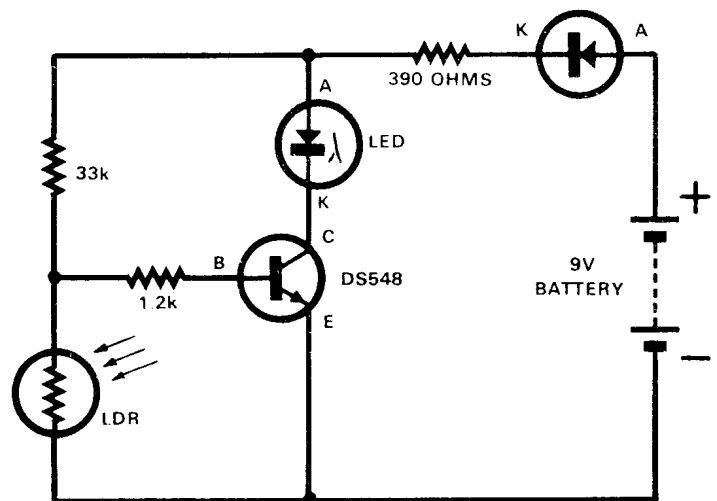
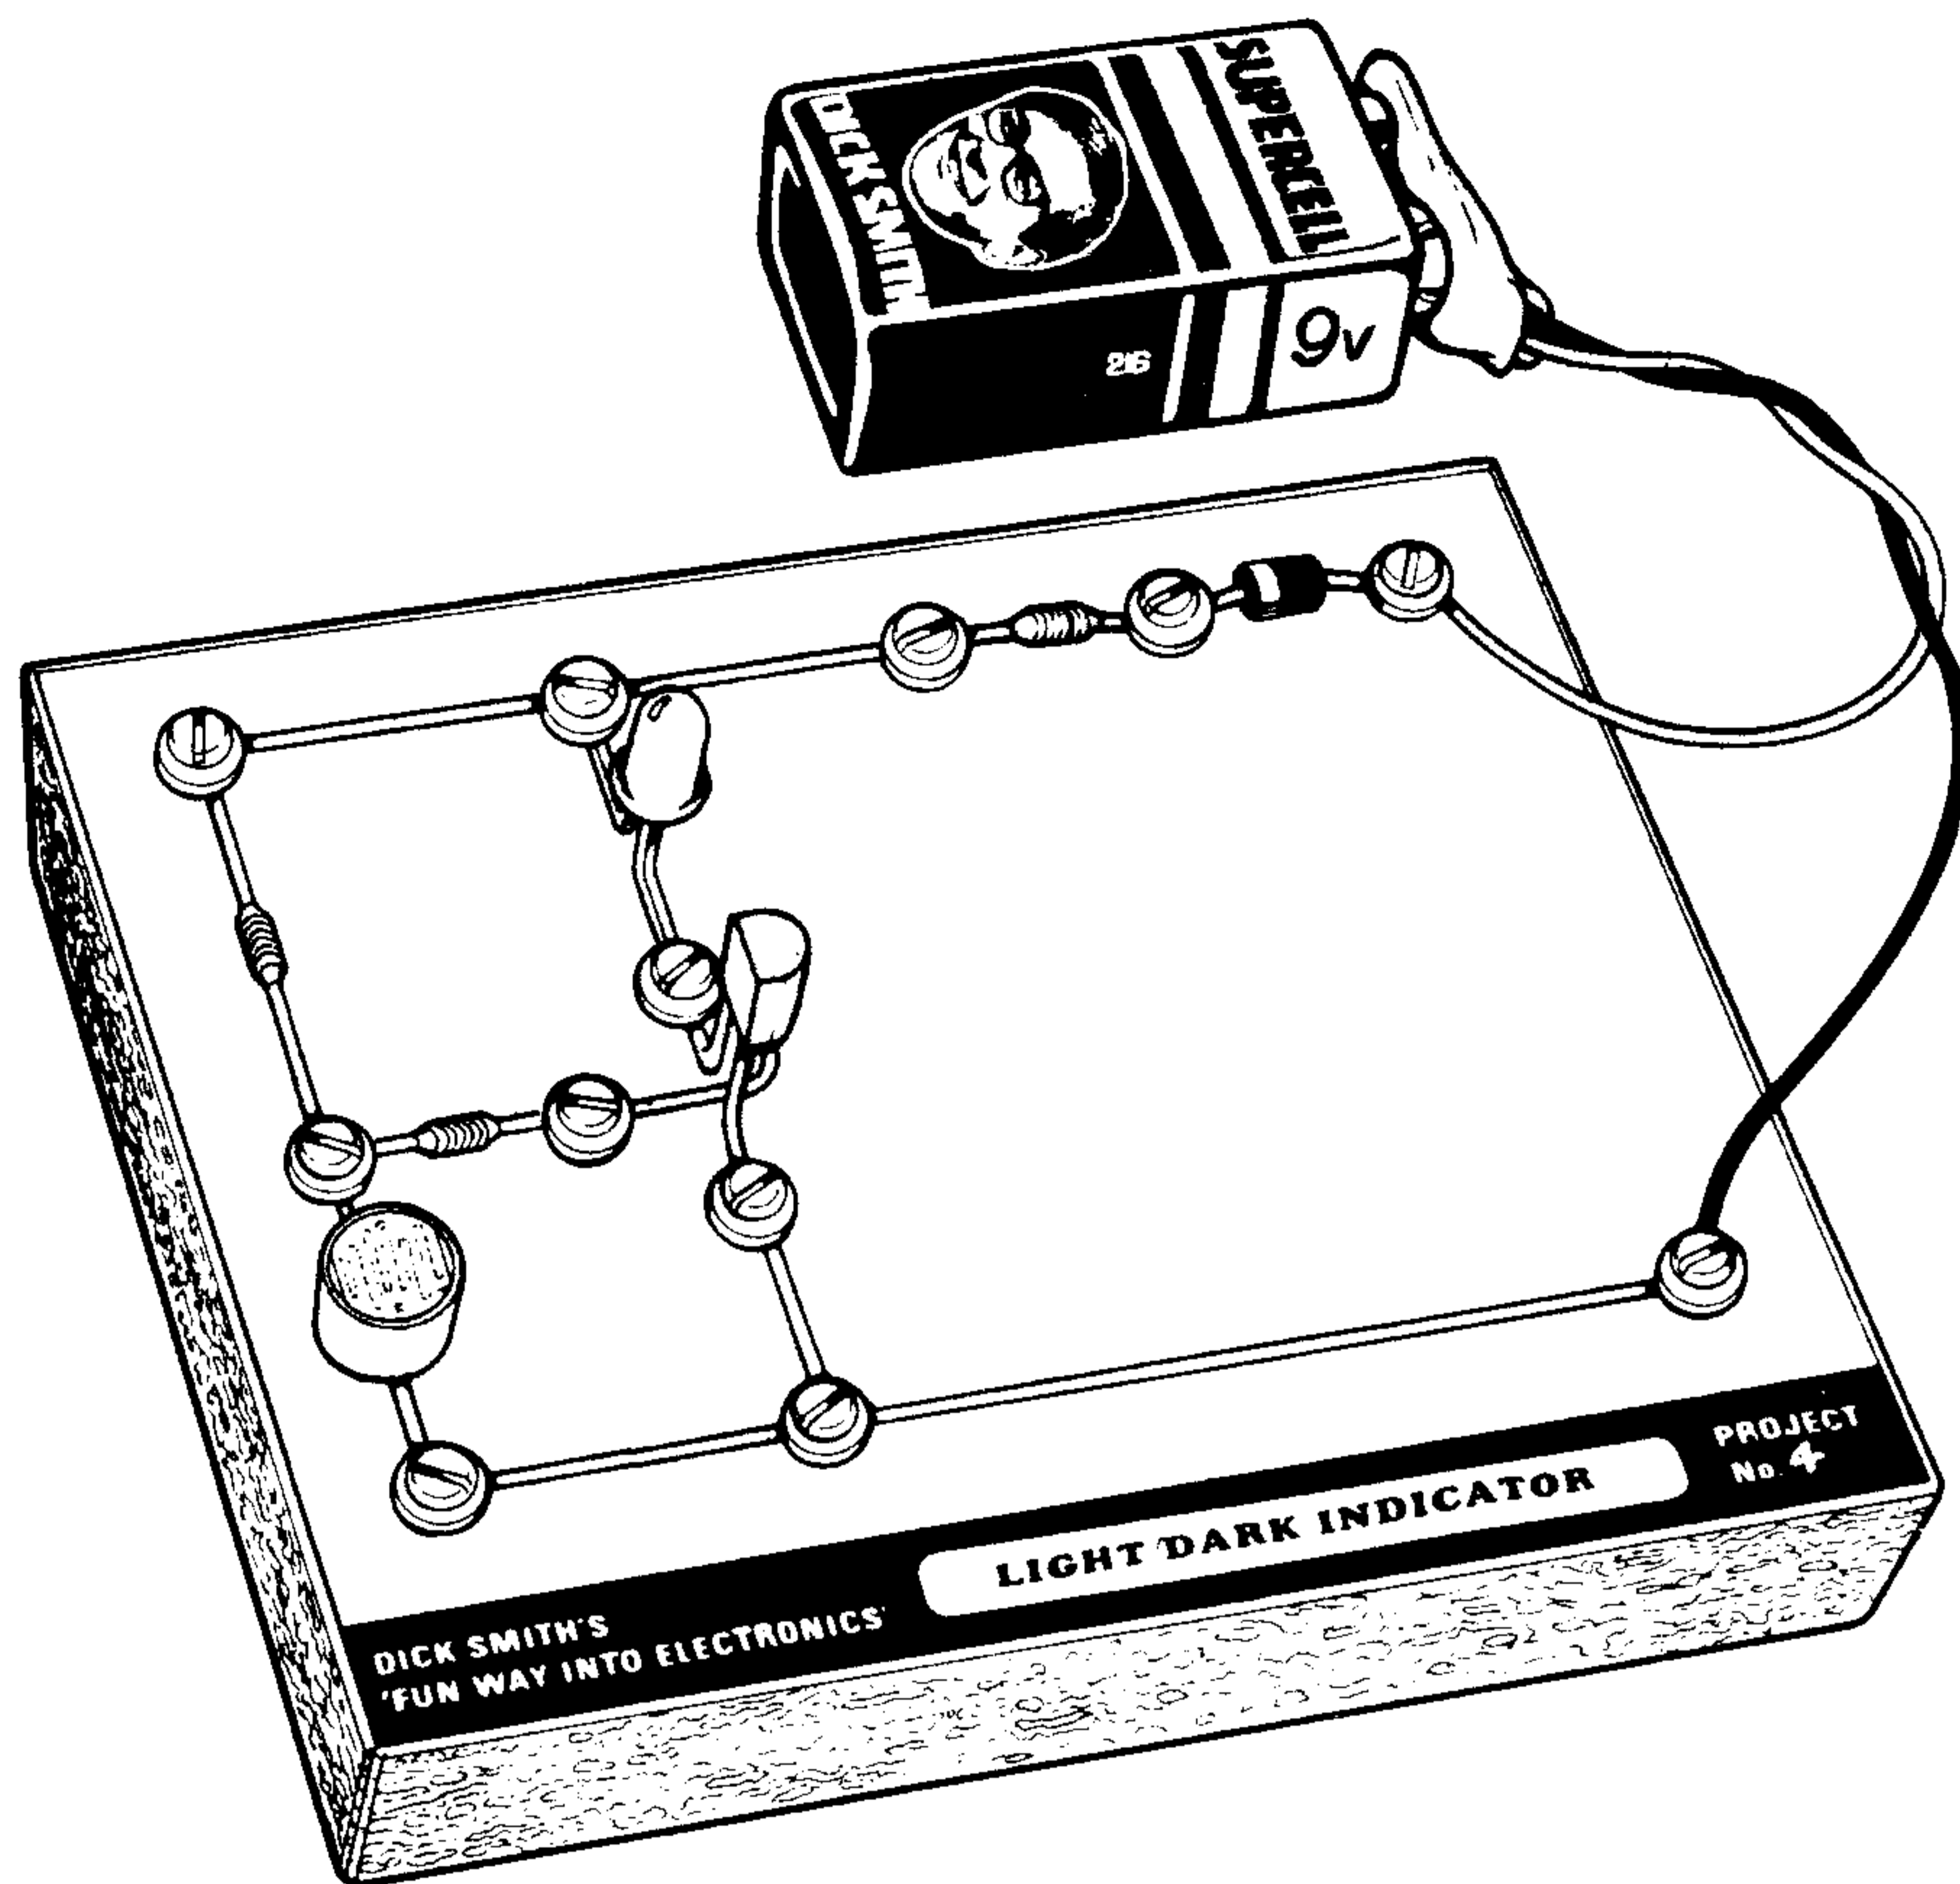

Figure 1
Figure 2
- (1) Cut out the project overlay No. 4 at the back of this book and glue it to your baseboard. Connect the wires and components as shown in the circuit diagram (Fig. 1) and the layout diagram (Fig. 2)
- (2) Mount the semiconductors (transistor, diode and LED) last, and make sure you have connected them the correct way around and that the leads are not touching one another.
- (3) Connect the battery to the clip. If all is well, nothing should happen!
- (4) Now cover the light dependent resistor (LDR) with your finger. The LED should now be glowing brightly. Take your finger away and the LED should go out. (You may find that you have to shield the LDR more effectively from light for correct operation.) Try a handkerchief or similar.